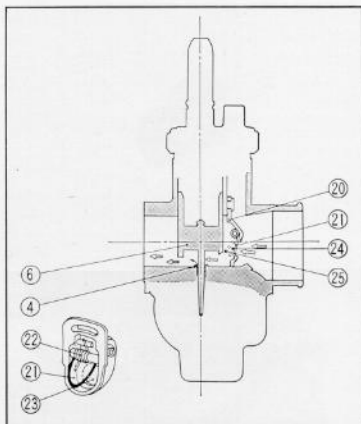

Fig. 3.117 Choke
When an engine is cold or the temperature is low during starting, a rich fuel mixture is temporarily required. This can be had by the use of the choke. When the choke lever is pulled up, the choke (20) is fully closed. The opening (23) is normally closed by the relief valve (21), however, during starting when the throttle is opened approximately 1/4 and the kick starter operated, the negative pressure created in the cylinder will cause the relief valve (21) to open by the proper amount (dotted section 24) and permit air to pass through the carburetor; this flow of air draws the fuel out of the needle jet (4) to provide an air fuel mixture ideal for starting. After the engine starts, the inlet negative pressure increases, and causes the relief valve (21) to open correspondingly wider to assure a suitable mixture. Thus, the opening of the relief valve (21) changes according to the opening of the throttle valve (6), section (25). (Fig. 3.117)